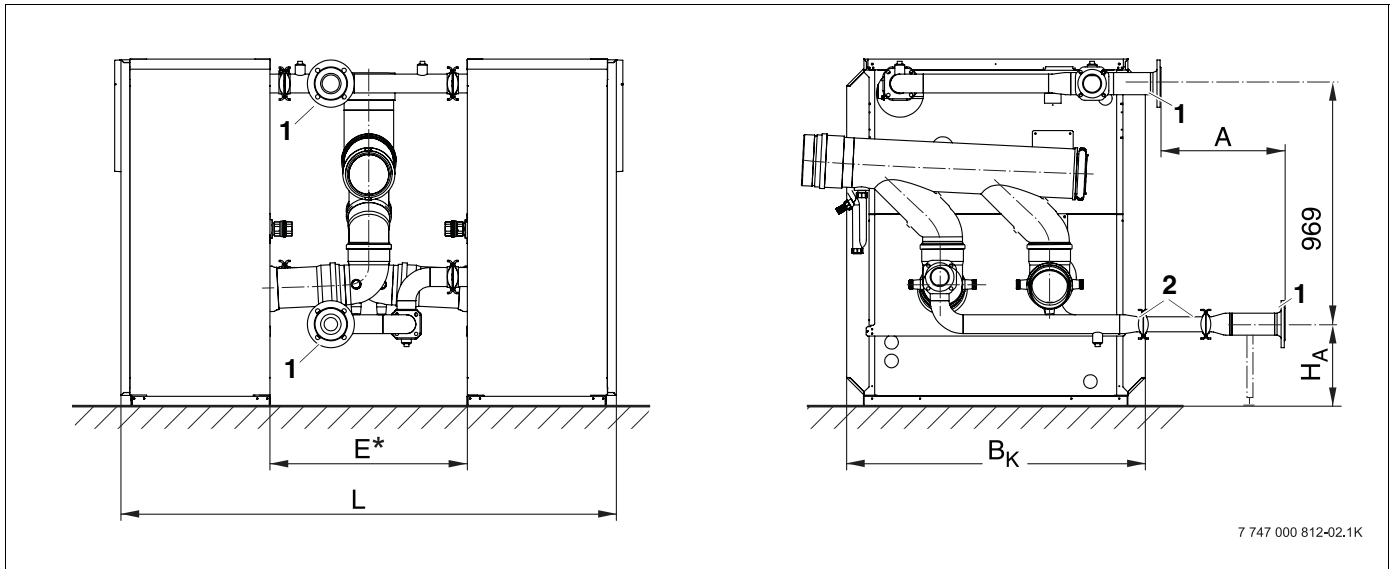

Fig. 2 Cascade pipework dimensions - GB312
* See Fig. 2 and Tab. 2.
Observe that dimension E is greater when fitting additional shut-off valves into the flow VK and return RK (see dimension E* in Fig. 2).
* Observe the dimension in brackets when installing shut-off valves (available as option) (see also Fig. 2).